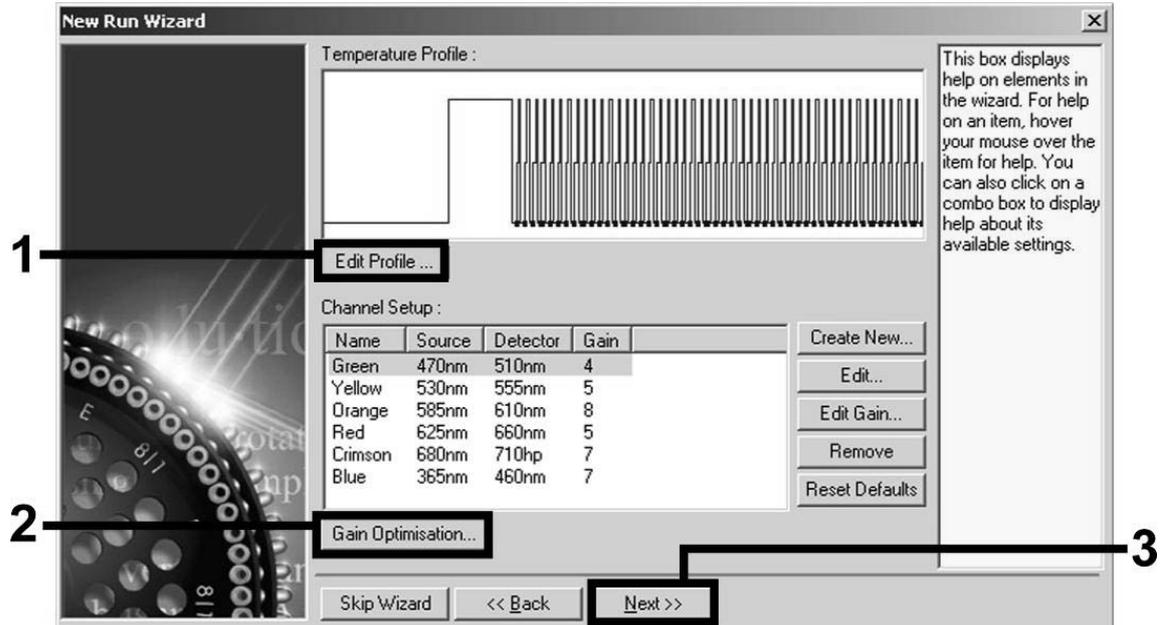
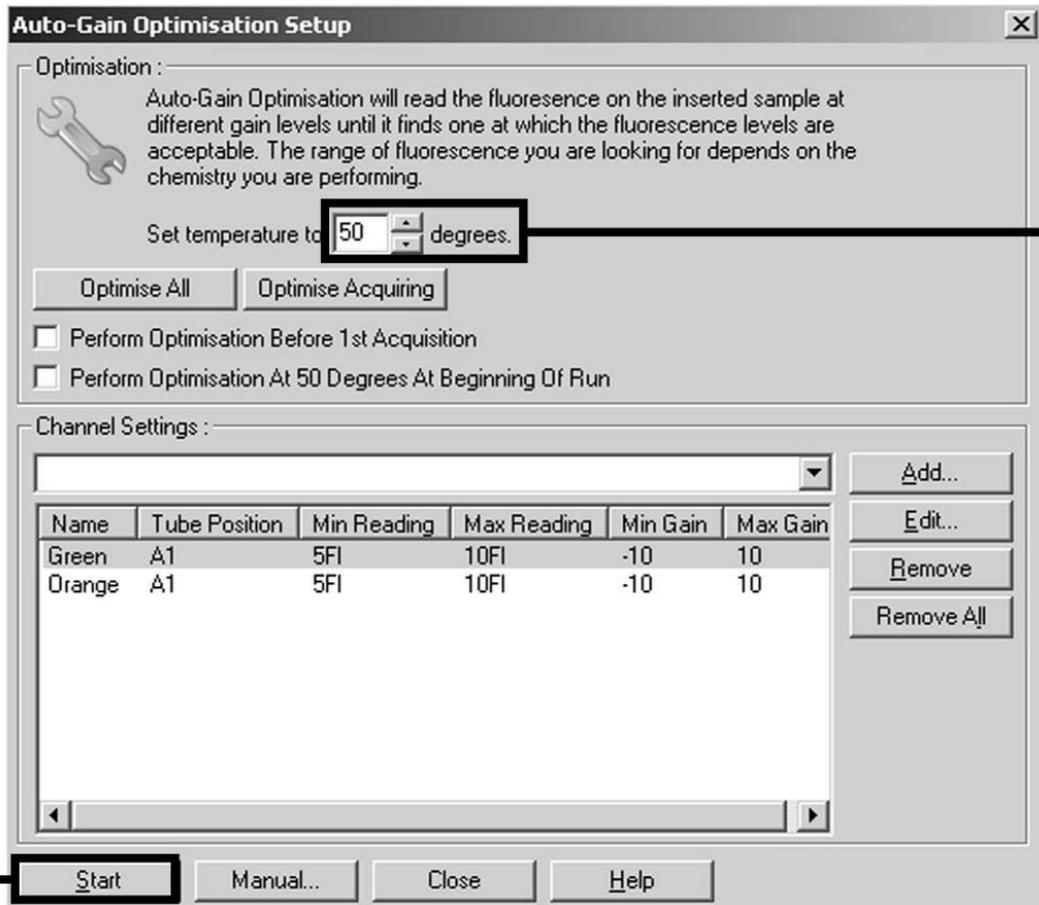

Figure 9. Editing the profile.
Figure 13. Adjusting the fluorescence channel sensitivity.
Adjusting the fluorescence channel sensitivity	Figure 13
- Click the “Edit Profile” button in the next “New Run Wizard” dialog box (Figure 9), and program the temperature profile as shown in Figures 9–12).
- The detection range of the fluorescence channels has to be determined according to the fluorescence intensities in the PCR tubes. Click "Gain Optimisation" in the "New Run Wizard" dialog box (see Figure 9) to open the "Auto-Gain Optimisation Setup" dialog box. Set the calibration temperature to 50 to match the annealing temperature of the amplification program (Figure 13).